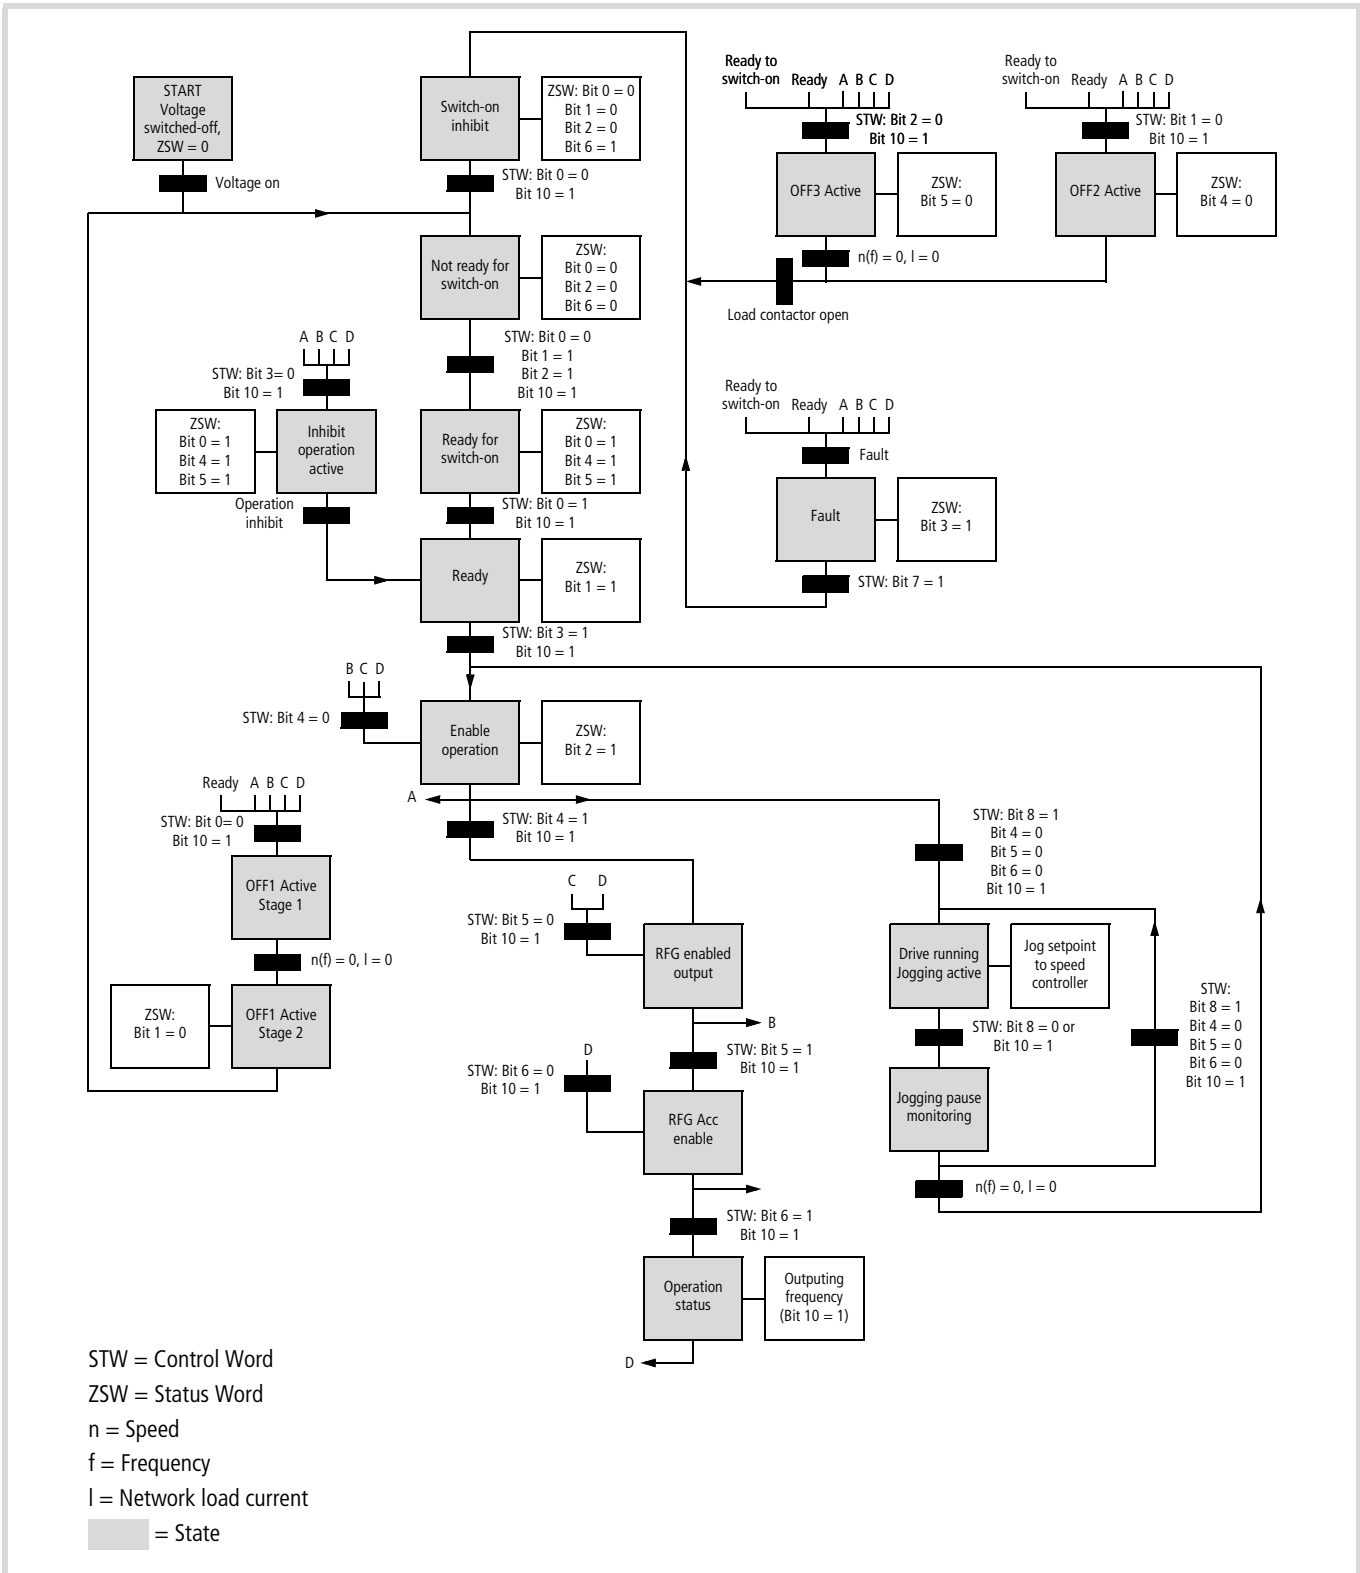

Figure 13: PROFIDRIVE state diagram
This section describes how to operate the inverter with the Control/Status Word. With the Control Word the PROFIDRIVE state-machine (→ Figure 13) is controlled, the Status Word is reflecting the state of the inverter.
To start the inverter the PROFIBUS state machine must be shifted in a correct way. This may be done in two steps. First the Control Word should be set to 0406 ("Ready for switch-on" state) and then to 047F ("Operation" state) → Figure 13.
- 1) To start the inverter the PROFIBUS state machine must be shifted in a correct way. This may be done in two steps. First the Control Word should be set to 0406 ("Ready to switch-on" state) and then to 047F ("Operation" state). → Figure 13.